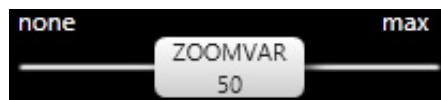

Figure 93 - ZOOMVAR Slider
2. Drag the **ZOOMVAR** slider (Figure 93) to adjust the degree to which the speed of the axis varies with the value of the zoom axis.